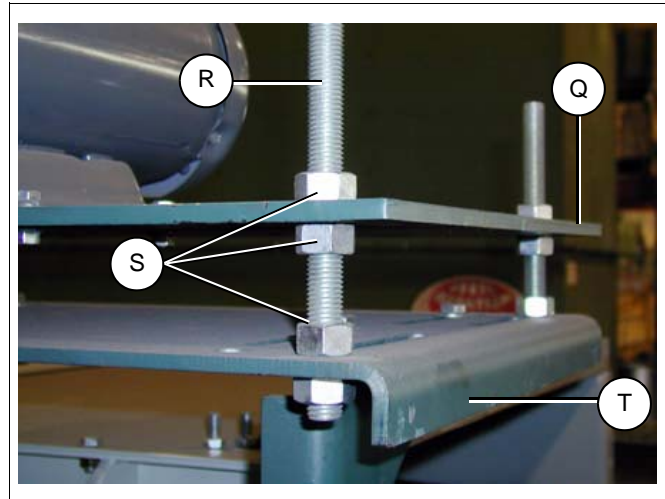

Figure 4S
- Thread nuts onto jack screws. (See Figure 4S.) Place bolt through motor mount bracket and base plate. Thread another nut onto jack screws to secure. Repeat for three (3) remaining jack screws.
- Thread another nut onto all four (4) jack screws. Place adjustment plate onto jack screws. Thread another nut onto each jack screw to secure adjustment plate. Use these nuts to adjust the motor height.